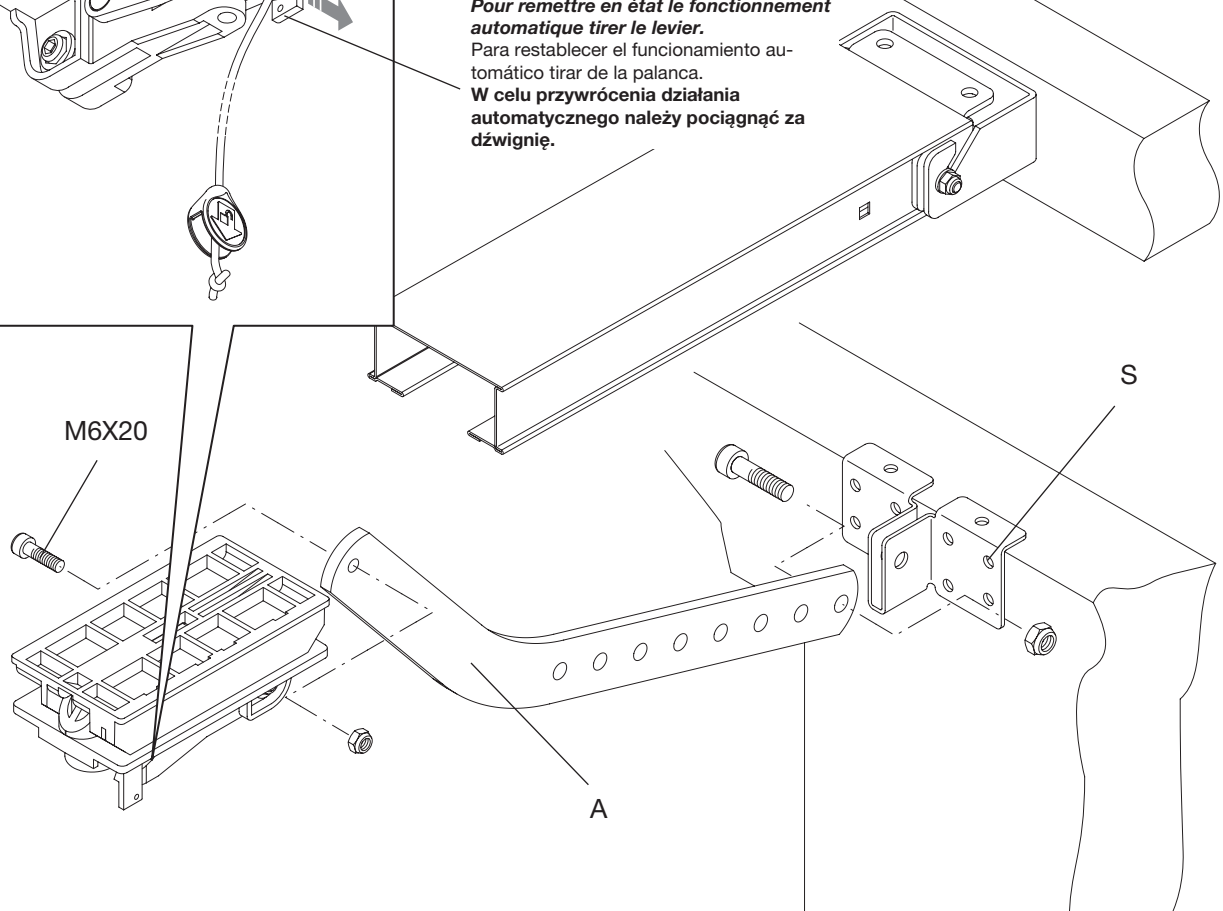

Fig. 14
- Insert the cord in the release lever and in the knob. Make a knot as indicated in the detail of Fig.14.